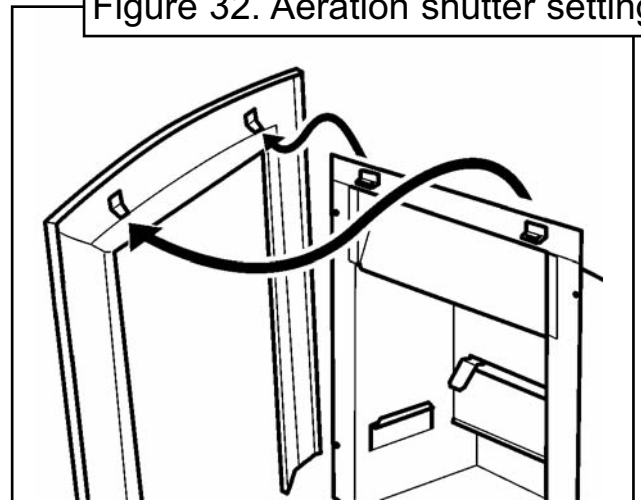

Figure 33. Front fascia removal
3. Carefully lift the fascia upward to clear the upper retaining brackets on the hotbox - (See figure 33). Pull the fascia clear and place carefully aside.